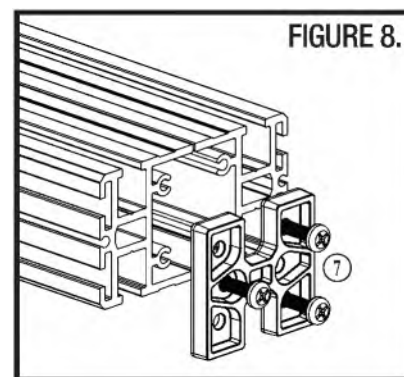
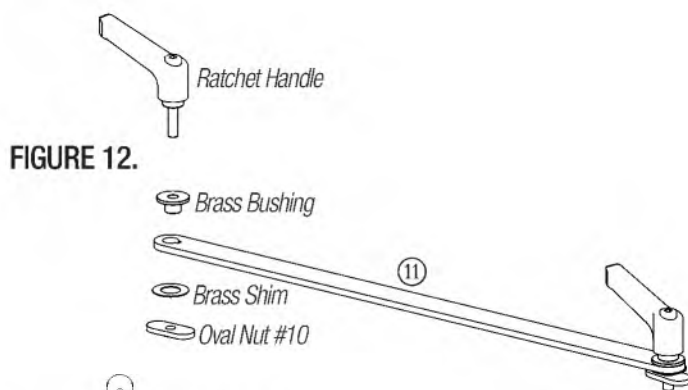

FIGURE 8.
FIGURE 12.
- Ratchet Handle #10-32 x 0.625 (2)
- Brass Bushing (2)
- Brass Shim (2)
- Oval Nut #10-32 (2)
- ⑫ Track Connector (2)
- Set Screw 1/4"-20 x 1/2" (8)
- Allen Key 1/8" (1)
- Screws 1/4"-20 (6)
- Oval Nuts 1/4"-20 (6)
1. Remove the Push Plate ⑦ from the end of the Saw Blade Side Track. **FIGURE 8.**
9. Assemble the Long Span Clamp ⑪. **FIGURE 12.**
11. Slide the additional Clamping Handle ⑤ Clamping Stud into the Saw Blade Side Track from the end.
13. Install the Push Plate ⑦ in the end of the Saw Blade Side Track. **FIGURE 8.**